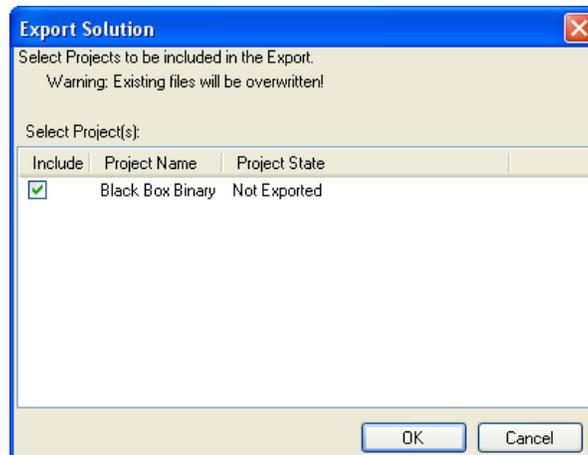

Figure 8-7. Export Solution Window
12. From the menu select Solution\Export Solution. The Export Solution window appears, as shown in Figure 8-7.